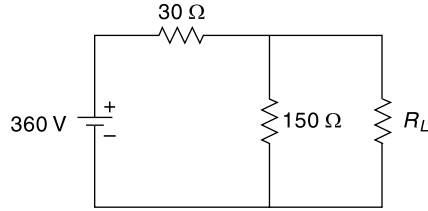

Fig. 4.183
22. In the circuit shown in Fig. 4.183 find the value of R_L so that it abstracts maximum power and also calculate that power. What percentage of power delivered by the battery reached R_L ? [Ans: $25\ \Omega$, 900 W, 35.7%]